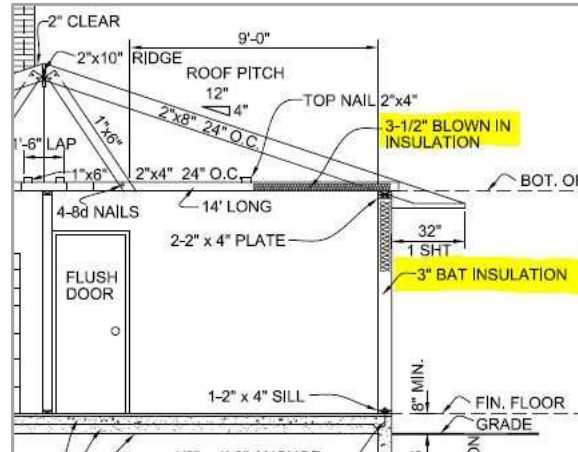

Figure 1: Excerpt from "Levittowner" Drawing (Levittown Archive)
Insulation in the ceilings varied. Blown or loose-fill insulation was used in some instances (particularly in Levittowners) and batting was used in others. About 3 ½ inches of insulation was originally used there. See Figure 1 below.
- 3) As shown in Figure 1, 3 inches of insulation is expected to be in the walls. In some instances, only 2 inches were found, which would reduce the rating of the wall to around R7.5.